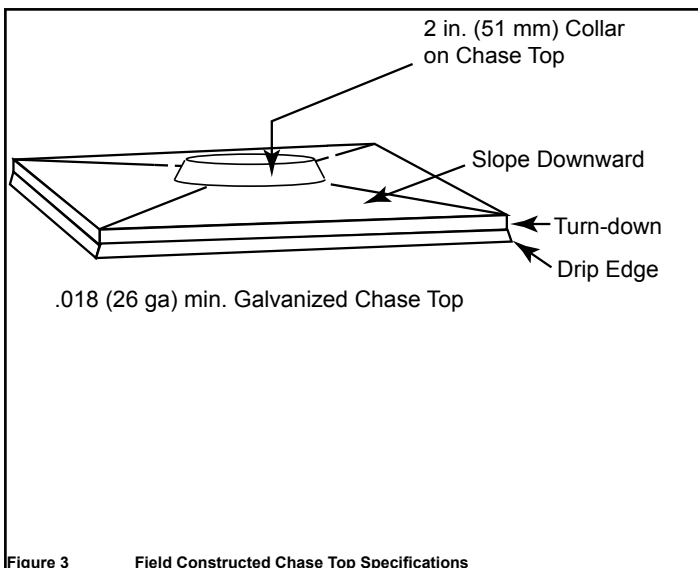

Figure 3 Field Constructed Chase Top Specifications
- You **MUST** use a chase top in a chase installation. Chase tops are available from your Hearth & Home Technologies Inc. dealer or may be field constructed, as shown in Figure 3.